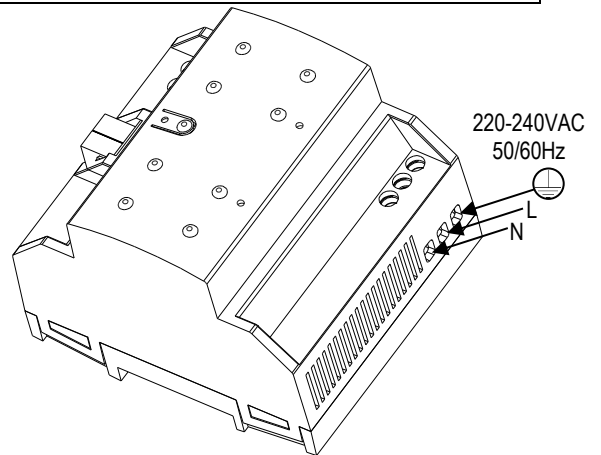

Figure 2: ZPS320HIC230 installation and connection
- Main power must be connected to L, N and ground terminals, in accordance with the schematic represented in figure 2.